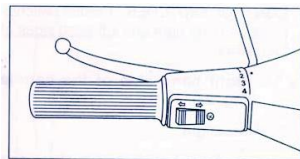

Fig. 22
2.2 **Left hand side of the handlebar (Fig. 22).**